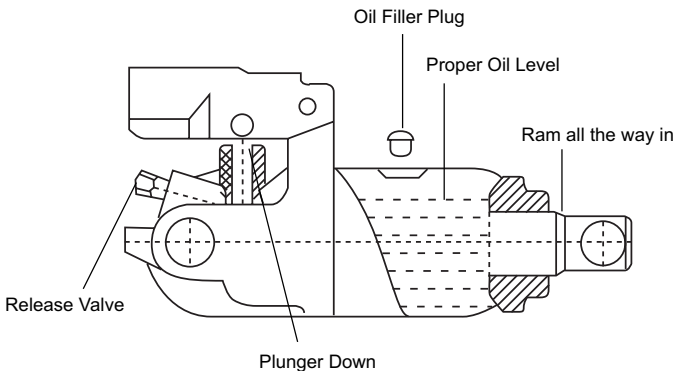

FIG. 2
- Remove the oil filler plug from the cylinder. (see Fig. 2)
- Position the jack on level ground and fully lower the saddle. (Ram is all the way in). Remove oil filler plug located under cover plate (see Fig. 2).
- Check ram and pump plunger (see Fig. 2) every few months for any signs of rust or corrosion. Clean as needed by wiping with an oily cloth.